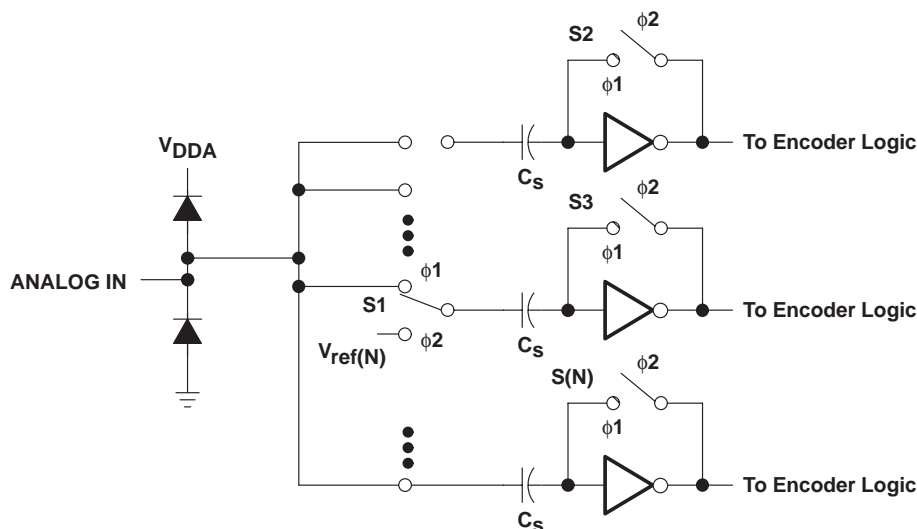

Figure 20. External Connections for Using the Internal Reference Resistor Divider
Figure 20 depicts the analog input for the TLV5510. The switches shown are controlled by two internal clocks,  $\phi 1$  and  $\phi 2$ . These are nonoverlapping clocks that are generated from the CLK input. During the sampling period,  $\phi 1$ , S1 is closed and the input signal is applied to one side of the sampling capacitor,  $C_s$ . Also during the sampling period, S2 through S(N) are closed. This sets the comparator input to approximately 2.5 V. The delta voltage is developed across  $C_s$ . During the comparison phase,  $\phi 2$ , S1 is switched to the appropriate reference voltage for the bit value N, i.e.,  $V_{ref(N)}$ . S2 is opened and  $V_{ref(N)} - VC_s$  toggles the comparator output to the appropriate digital 1 or 0. The small resistance values for the switch, S1, and small value of the sampling capacitor combine to produce the wide analog input bandwidth of the TLV5510. The source impedance driving the analog input of the TLV5510 should be less than 100  $\Omega$  across the range of input frequency spectrum.